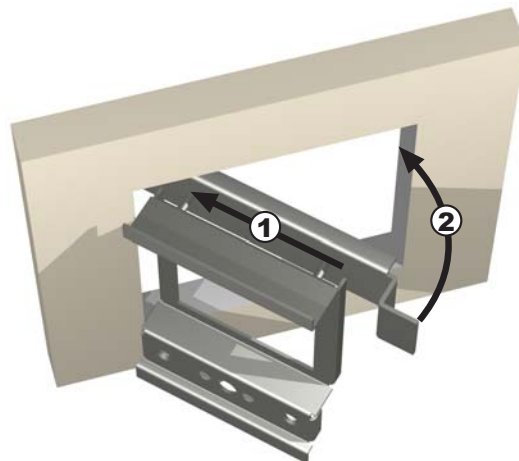

Figure 8 – Installing the MRC88m Keypad mounting bracket in the wall
- e. Slide the left or right side of the back-bar into the wall as shown in **Figure 8**.